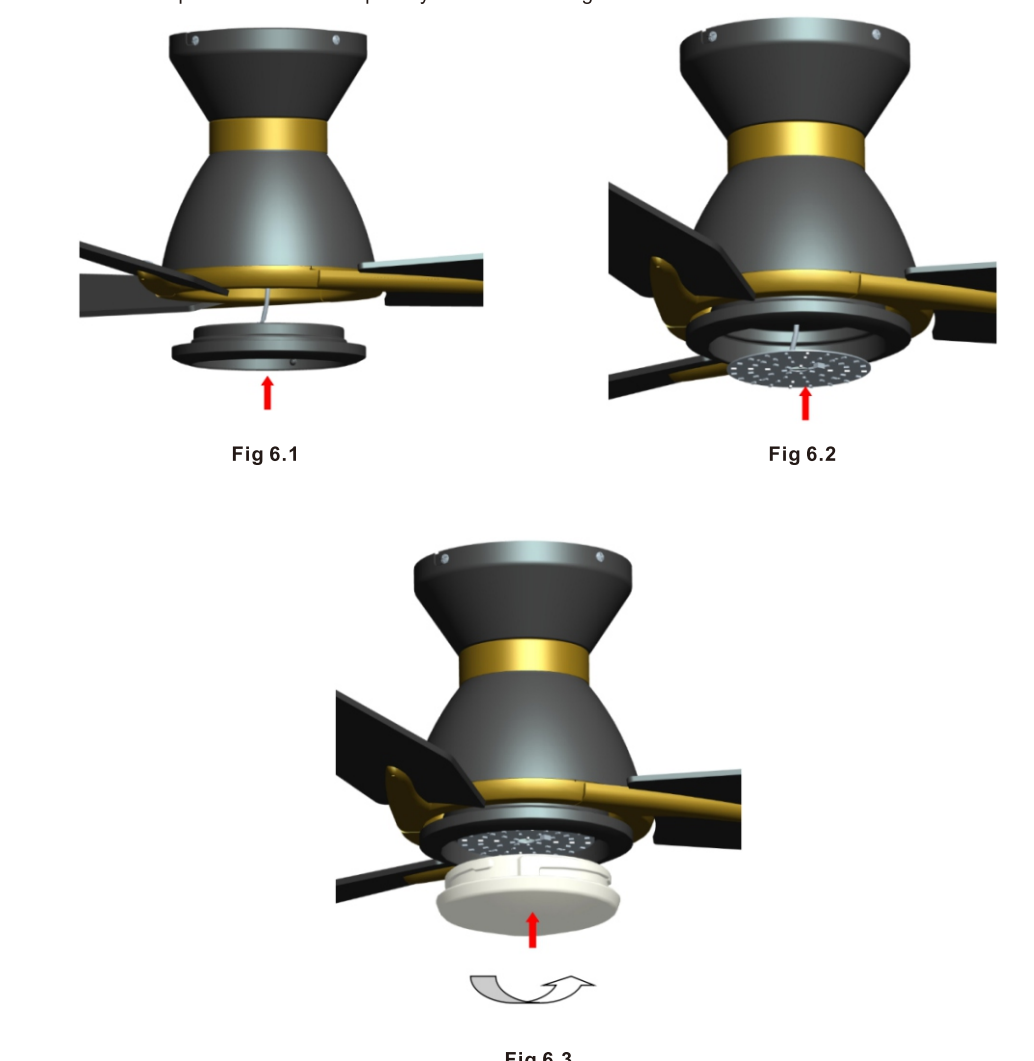

Fig 6.3
6.3 Rotate the lampshade clockwise until it locks into the pan tightly as shown in Fig 6.3.